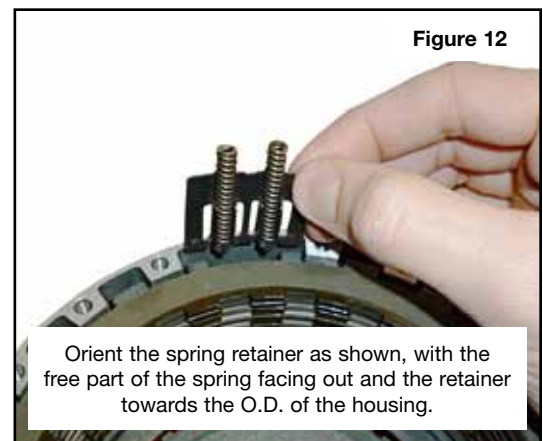

Figure 12
- f. Slide the spring retainers into the housing, with springs and retainers oriented as shown (**Figure 12**).